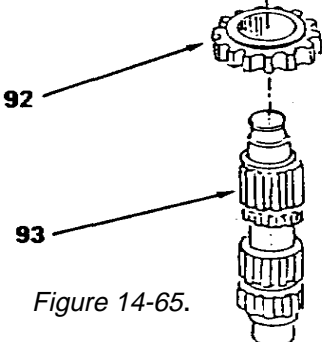

Figure 14-65.
- 13. Install gear (92) on shaft (93, Figure 14-65).